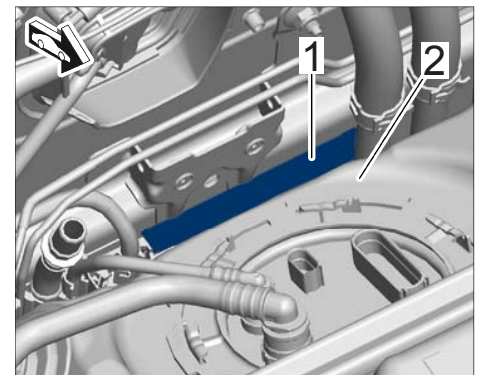

Figure 4
- 8.3 Carefully pull out foam seal ⇒ *Figure 4 -1-* between the body and fuel tank ⇒ *Figure 4 -2-* and remove any adhesive residue on the body.
The foam seal ⇒ *Figure 4 -1-* will be re-used during installation.